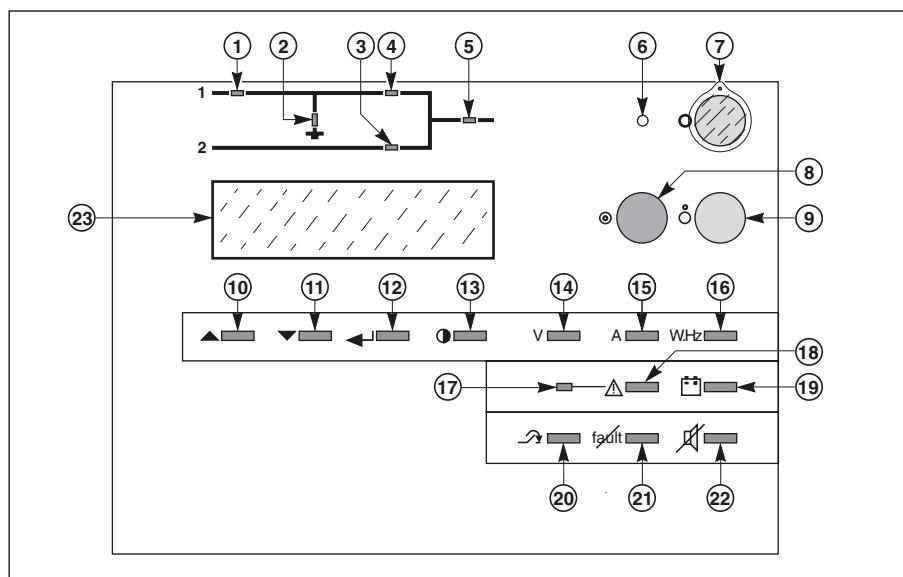

Fig. 19
- press the "inverter OFF" button ⑨ on the control panel for three seconds (see figure 19).
The display is structured around primary and secondary messages, measuring tables and setting screens. As a rule, the message displayed on the screen is always a primary one. The secondary messages, if any, are accessed by pressing keys ⑩ ▲ and ⑪ ▼ (see figure 19).
The presence of secondary messages is indicated by the arrow ↓ at the end of the primary message. Return to the primary messages is automatic if the keypad is not used for 2 minutes, or direct by pressing key ⑯ (see figure 19). The display screen lights up when a key is pressed, and goes off if no key is pressed for 5 minutes.